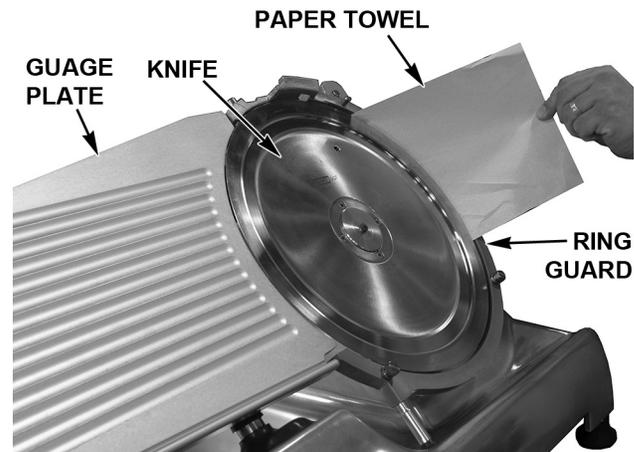

Fig. 10
- Clean completely around the Ring Guard by working a moistened, folded paper towel between the Ring Guard and the Knife (Fig. 10).